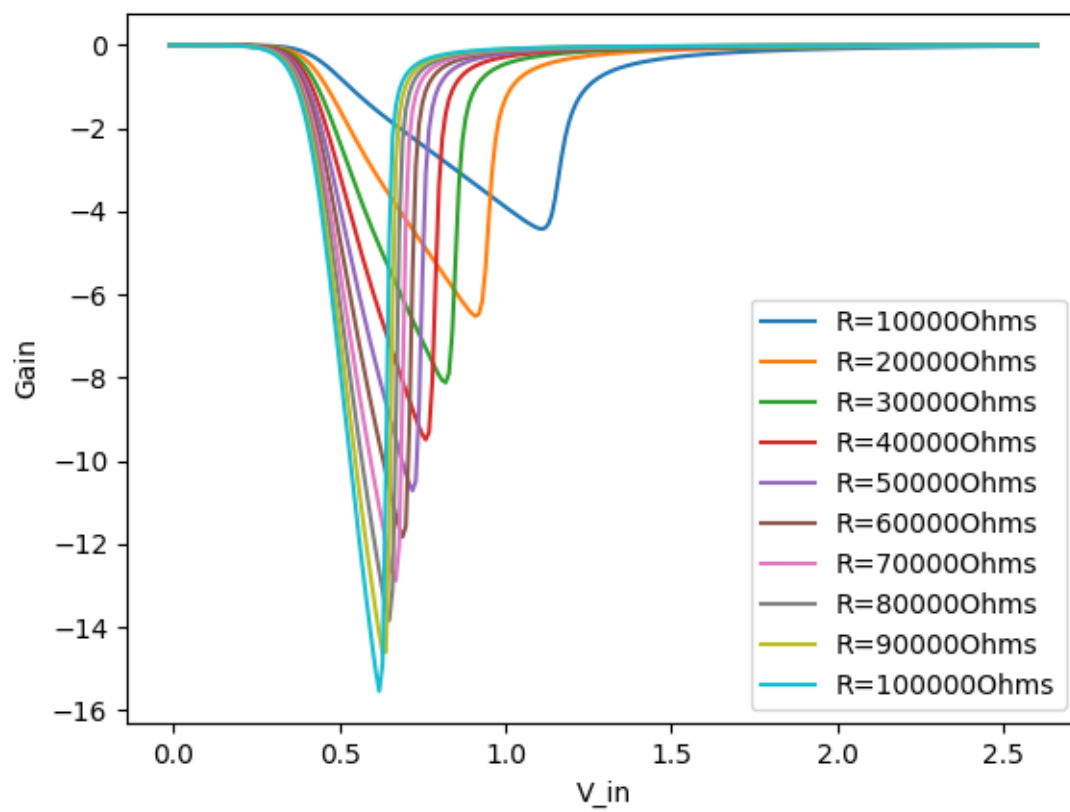

Figure 11: Impact of R_L on PG
- Please refer Figure 11 for the plot generated.